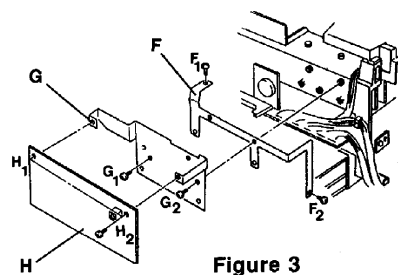

Figure 3
8. Install the grounding plate [F] using one self-tapping screw [F₁] and one threaded screw [F₂] as shown in Figure 3.
9. Install the mounting bracket [G] using two self-tapping screws [G₁, G₂]. Figure 3.
10. Plug the CVG4 Digital board [H] into the FCU and attach it to the bracket [G] using two threaded screws [H₁, H₂]. Figure 3.